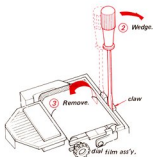

Fig. 2-7.
- ① Remove rear cabinet ass'y and chassis with electrical and mechanical parts mounted, as outlined in 2-1 and 2-2 above.
- ② Release main chassis claw by wedging with a slot screwdriver as shown in Fig. 2-7.
- ③ Remove dial film ass'y in the direction shown by the arrow holding the dial film with finger preventing it from being strongly rewound by dial film spring.